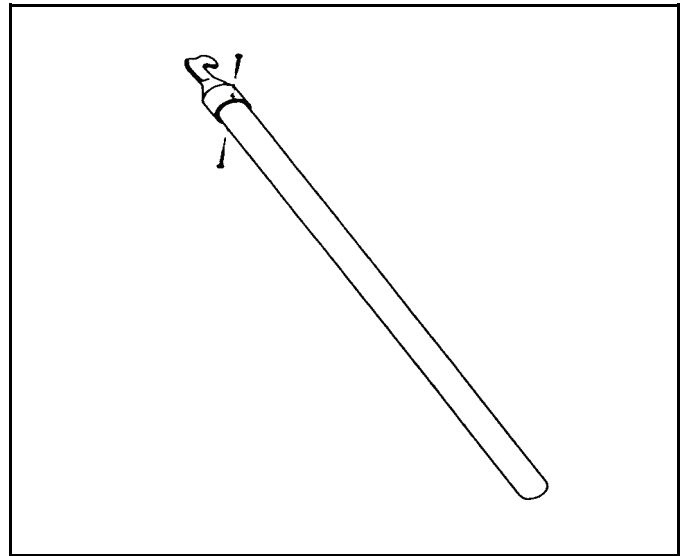

Figure 7
6. Attach door opening hook to wood dowel using (2) 1/2" wood screws. Figure 7.
Should there be a power outage, the stair can be operated manually. The long pole with hook (Figure 7) is supplied for this purpose. See Page 9 for manual operation.
In the event of a power outage, the stair can be operated manually. The long pole with hook (Figure 7) is supplied for this purpose.